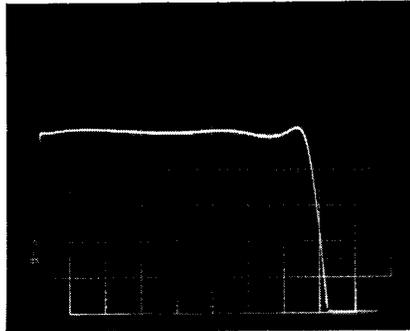

Fig. E-2: OVERALL DEEMPHASIZED RESPONSE
e) You are now sweeping the entire OPTIMOD-TV system, including the complex filters in Cards #8 and #9. Adjust R618(652) to achieve maximally flat response, similar to Fig. E-2. The response should be $\pm 0.75\text{dB}$ or better, 50-15,000Hz.